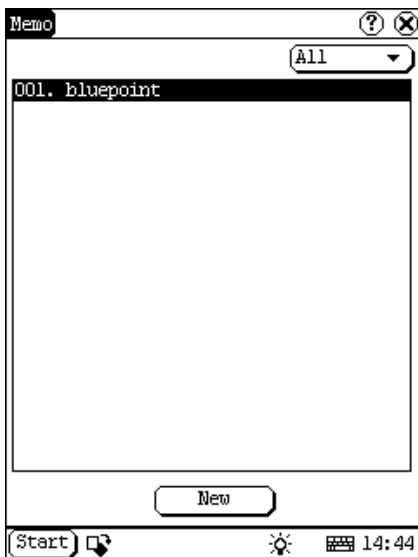

Figure 5-15
- 1) In the pop-up 'PIM' list, select 'Memo' to open the Memo interface. (See Figure 5-15)